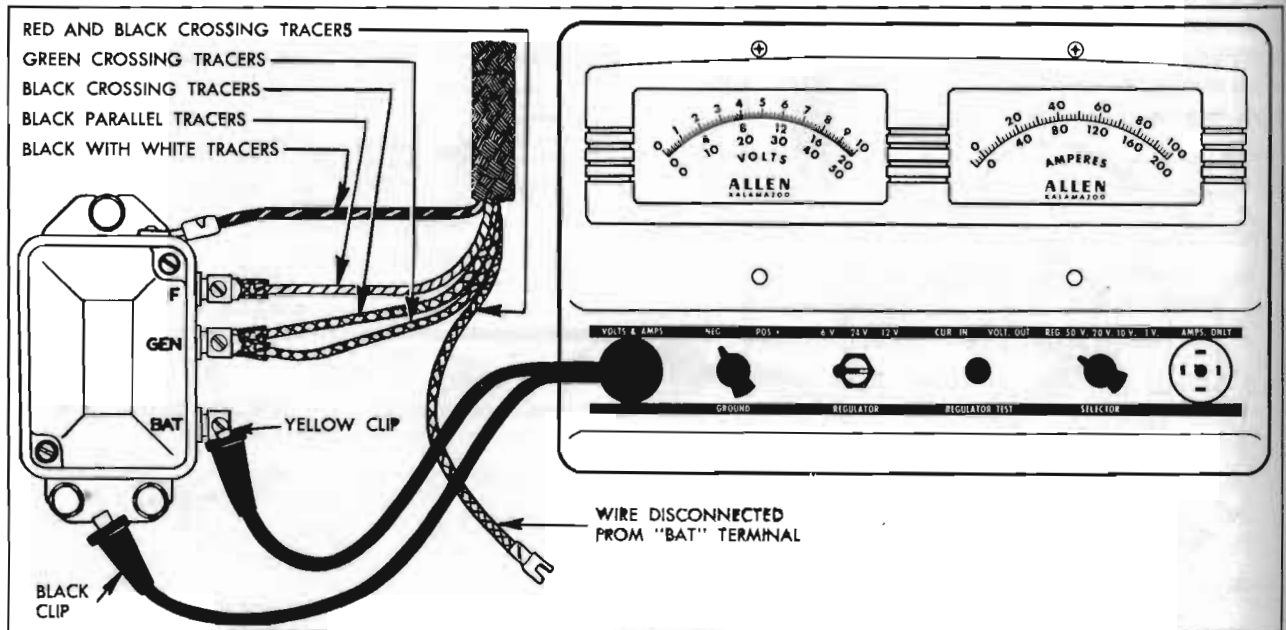

Figure 10-24—Voltage and Current Regulator Test Connections—Allen Volt-Ampere Tester
12. Turn "SELECTOR" switch to "REG" position, leave "GROUND" switch at "NEG" position, and turn "REGULATOR" switch to "6V" position. Connect YELLOW clip of voltmeter lead to regulator terminal marked "BAT" and leave BLACK clip connected to ground on base plate of regulator. See figure 10-24.